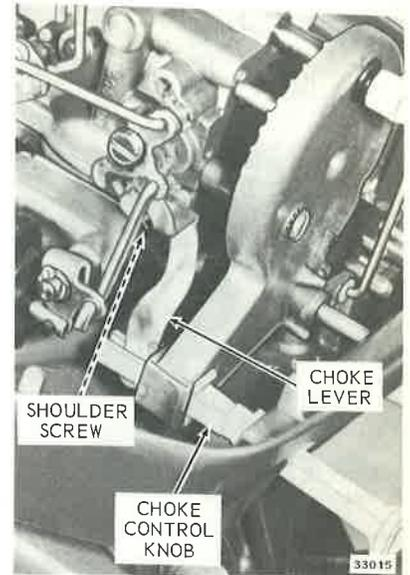

Figure 3-4a. Removing Choke Knob
- a. Remove shoulder screw and choke lever to remove choke control knob from carburetor. Lift up on choke arm to remove choke control knob from carburetor. See Figure 3-4a.